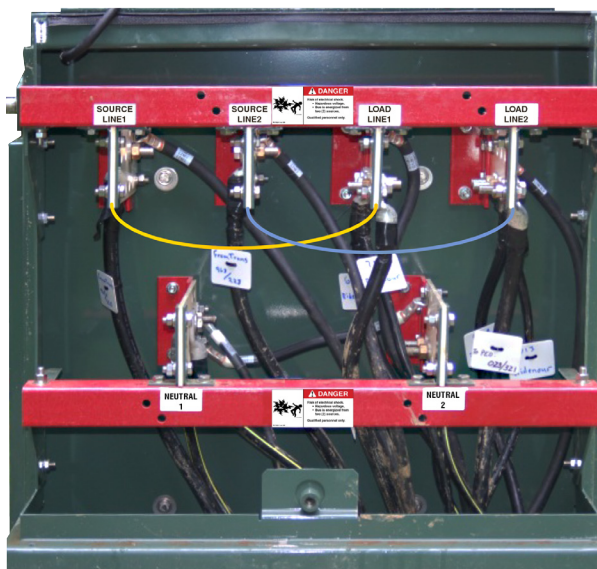

Figure 14. Location of bypass jumpers in AC cable termination area.
5. Install a bypass jumper from the “Source Line 1” bus bar to the “Load Line 1” bus bar. See Figure 14.
6. Install a bypass jumper from the “Source Line 2” bus bar to the “Load Line 2” bus bar. See Figure 14.